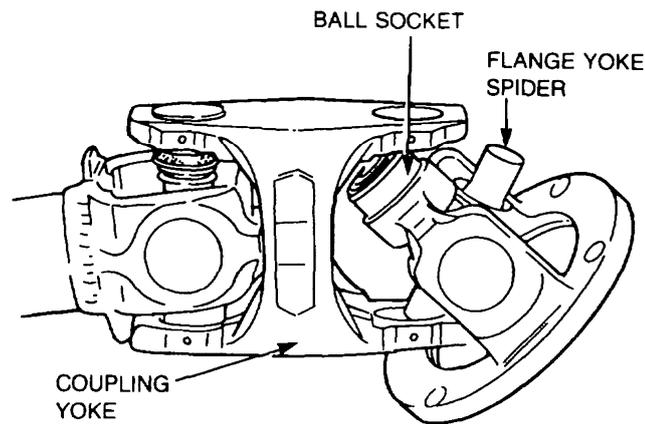

Figure 95 Flange Yoke Spider Installation
- e. Engage the flange yoke spider in the coupling yokes (Figure 95).